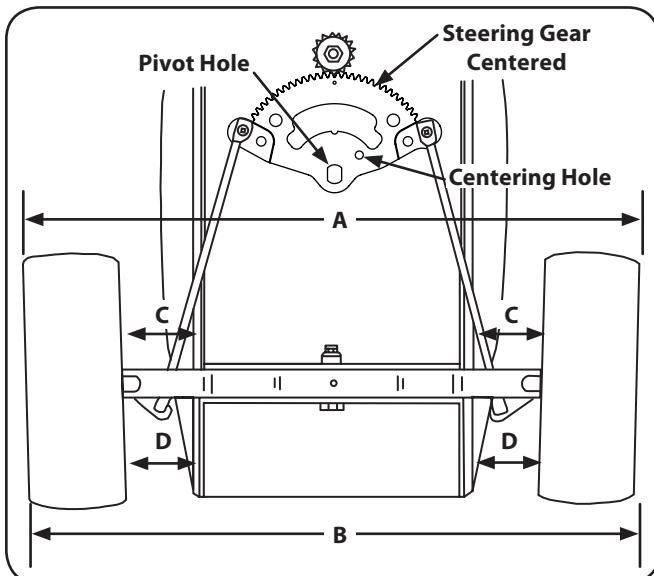

Figure 6-6
The front wheels should toe-in approximately $\frac{1}{8}$ to $\frac{1}{4}$ ", as measured across dimensions A and B. See Figure 6-6.
1. Check the steering gear to ensure it is in the centered position. The hole in the steering segment gear will align with the hole in the steering housing (See Figure 6-6).
3. Measure the distance between the bottom edges of the tractor frame channels and the marks on the front of each wheel (See measurement D in Figure 6-6). These two measurements should be equal.
4. Measure the distance between the frame and the marks on the rear of each front wheel (See measurement C in Figure 6-6). Measurement D should be approximately $\frac{1}{16}$ " to $\frac{1}{8}$ " inch less than measurement C on each side of the tractor.